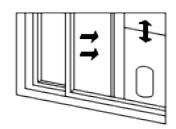

Fig.3
1) Half open the window, and mount the window sealing plate assembly to the window (as shown in Fig.2 and Fig.3); the assembly can be placed in horizontal and vertical direction.